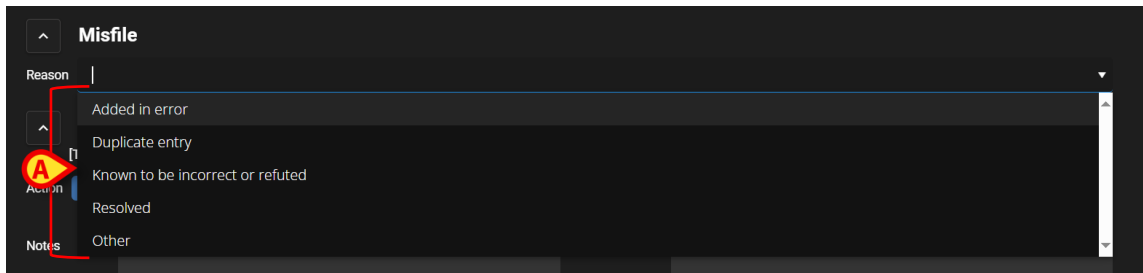

Fig 91
- Either type the reason in the “Reason” field or select it on the available drop-down menu (Fig 91 **A**).